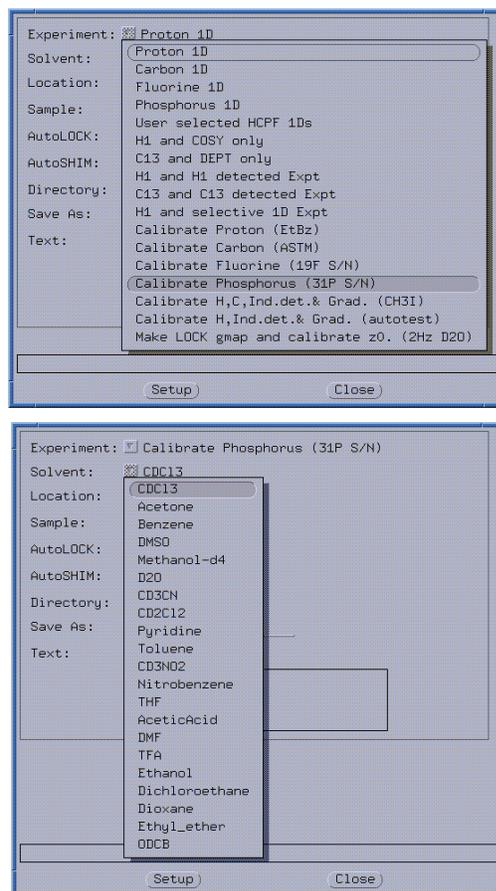

Figure 24. GLIDE Calibrate Phosphorus
3. Right click the **Experiment** drop-down menu and select **Calibrate Phosphorus (31P S/N)**, as shown in Figure 24.
4. Right click the **Solvent** drop-down menu and select **CDCl3** as shown in Figure 24.